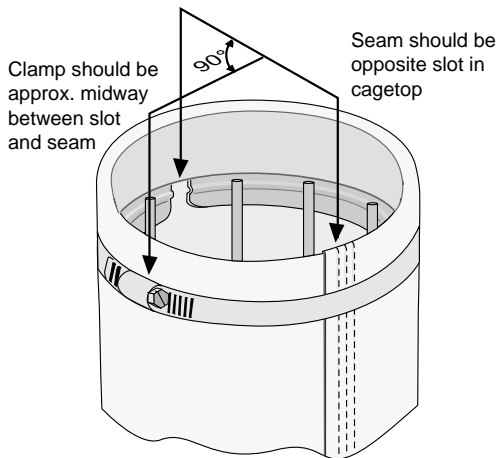

Figure 2
3. Loosely install a new clamp around the top of the bag/cage combination, with the clamp screw positioned midway between the gap in the roll band top and the bag seam (see figure 2). The clamp should be seated over the first groove, just tight enough to stay in place. Install a new optional felt seal around the bag cup. This seal helps prevent leakage of fine particulate.
2. Assemble pipe fittings and ball valve as shown in Fig. 2-b, using Teflon tape on all pipe threads.
5. On opposite side of the compressed air manifold, install pipe fittings and ball valve as shown in Fig. 2-a and this will serve as a drain valve and air bleed off.